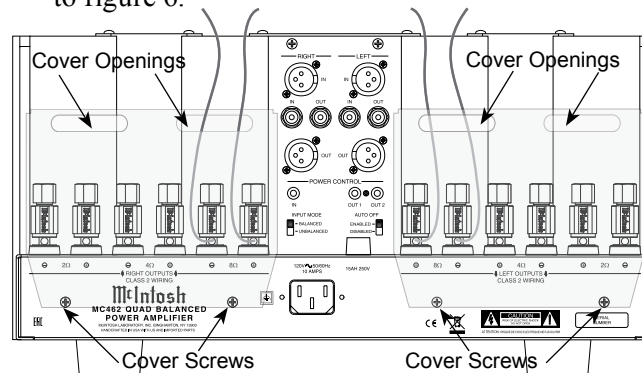

Figure 6 (Outside USA and Canada)
11. Locate the Terminal Connections Covers from the inside of the MC462 shipping carton. Insert the just prepared Loudspeaker hookup cables thru the cover openings, one cover for each channel. Refer to figure 6.
Note: The illustration in figure 6 is connections for 8Ω (ohms) Loudspeakers.
13. Attach the Terminal Connections Covers to the MC462 Rear Panel with the previously removed Screws. Refer to figure 6.